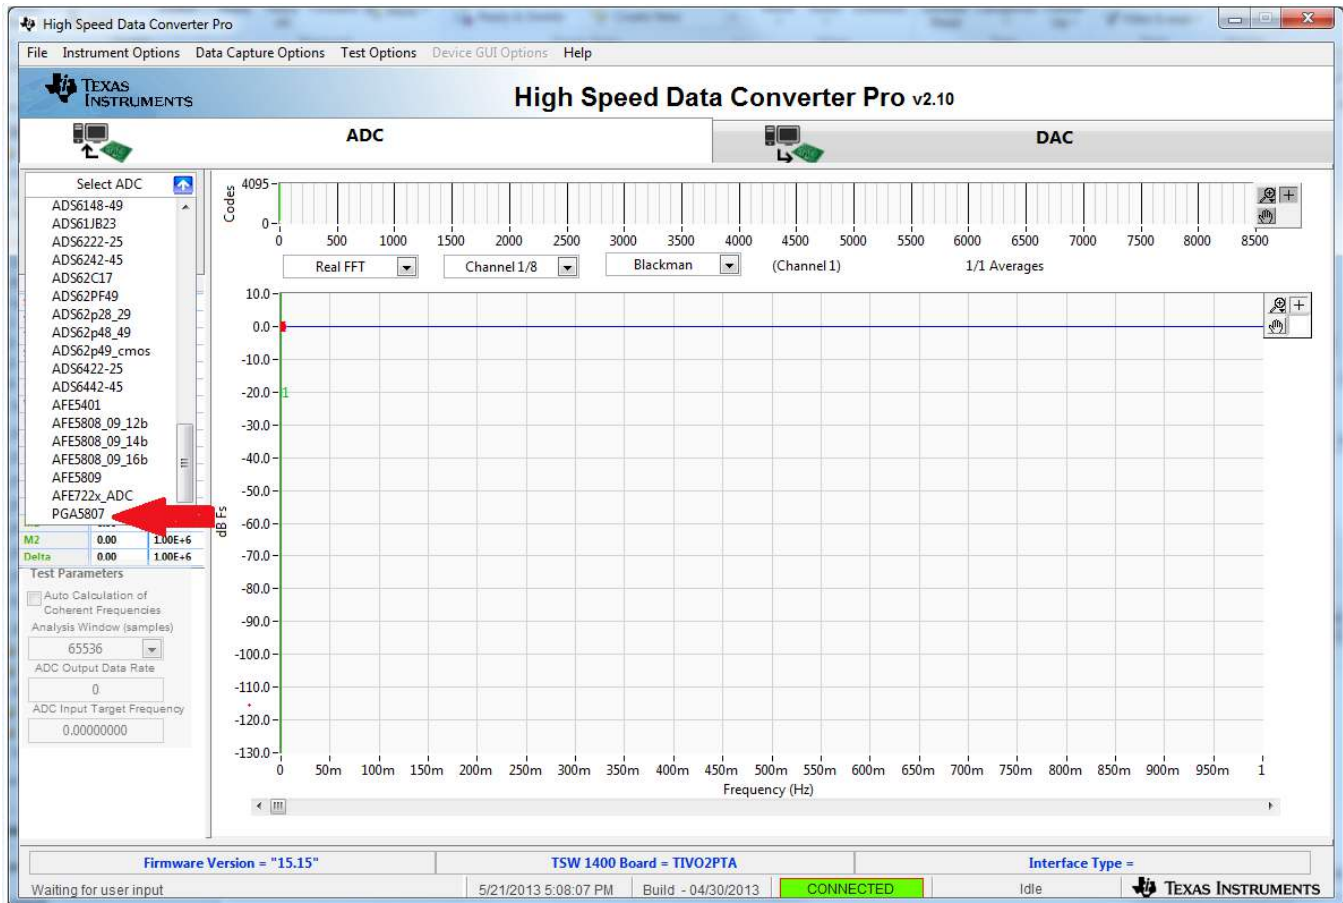

Figure 25. TSW1400 GUI Setup (d)
2. Select a device by clicking on the Blue arrow in the upper left corner of the *HSDCpro* GUI. Scroll down and select *PGA5807* as shown in Figure 25.